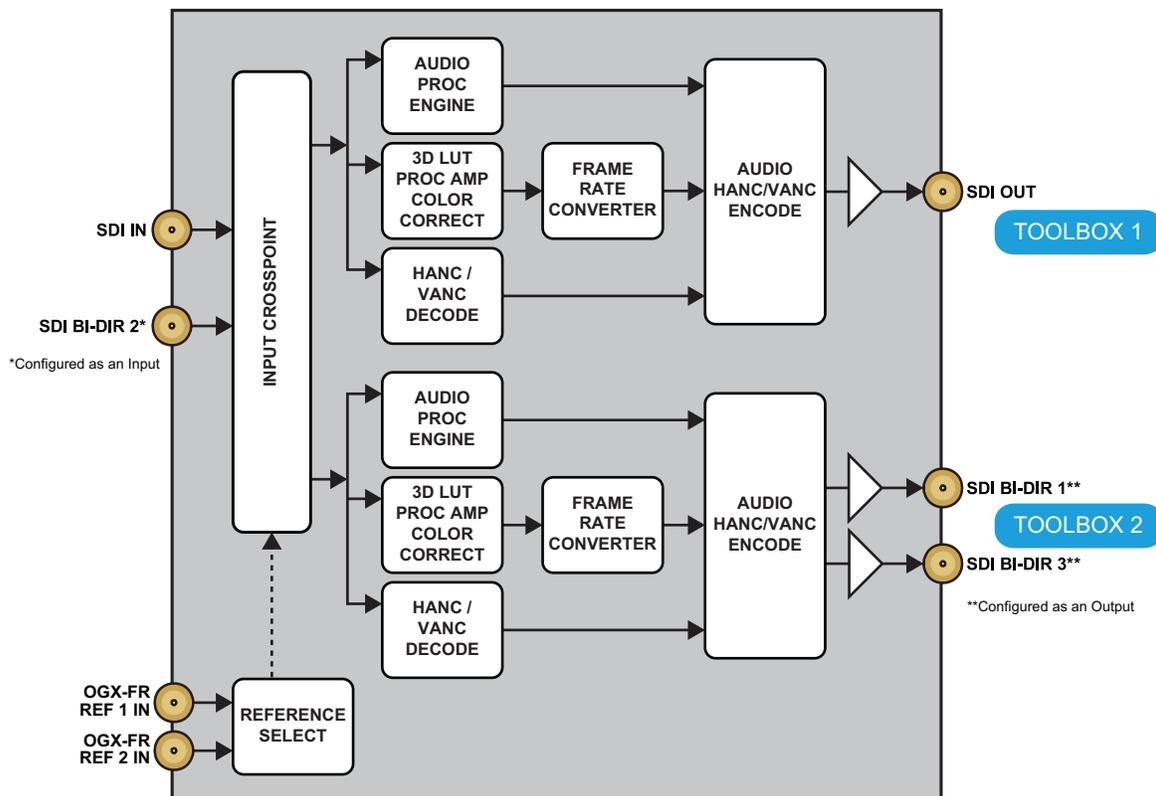

Figure 35 Example of a Dual Channel Workflow — R4F-GATOR
**Figure 35** shows the R4F-GATOR rear module configured with two SDI inputs and three SDI outputs.